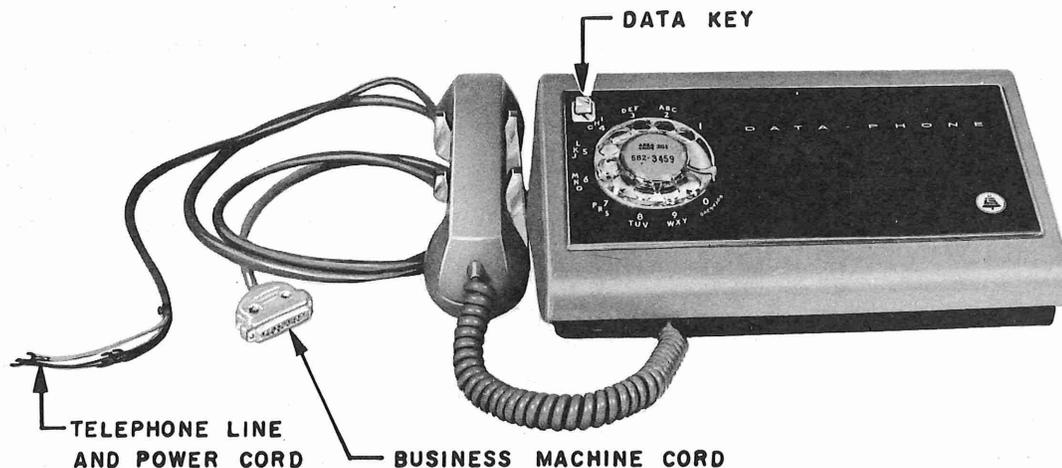

Fig. 1 — Data Set 402A, Transmitter
3.01 The data set 402A consists of a 9-channel transmitter, an answer-back receiver, and a telephone set, all enclosed in one housing (Fig. 1).